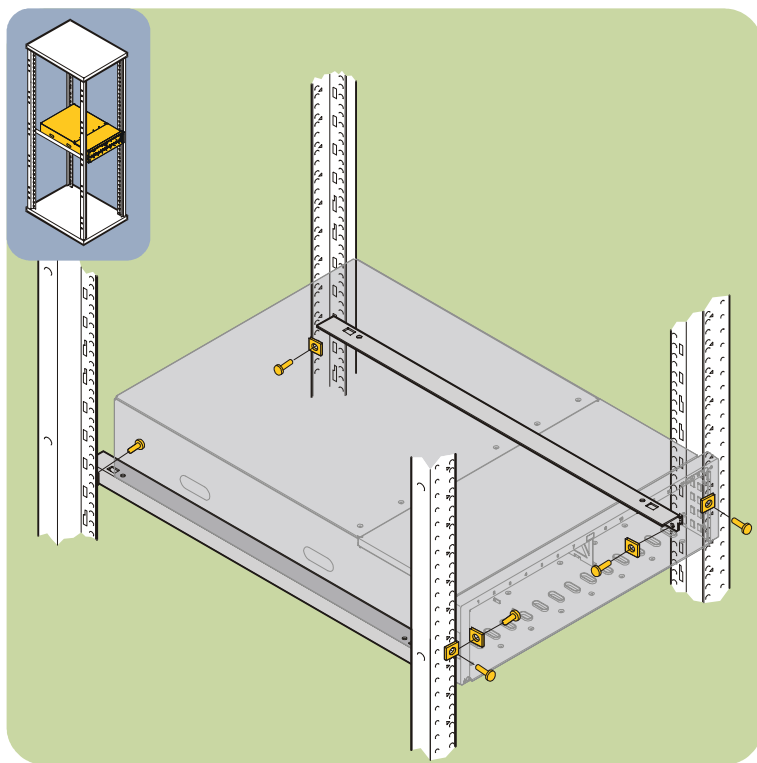

Fig. 22. HP Computer Cabinet Installation Overview
2. Study the installation overview (see Fig. 22).